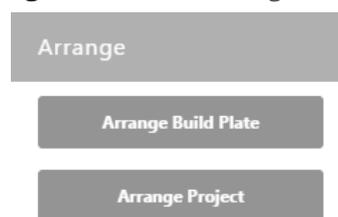

Figure 13: Arrange Dialogue Box
- v.) **Arrange** - If there are multiple objects on the build plate, select the **Arrange Build Plate** to move the objects to the most optimal placement on the build plate. The **Arrange Dialogue Box** is shown in Figure 13 below.